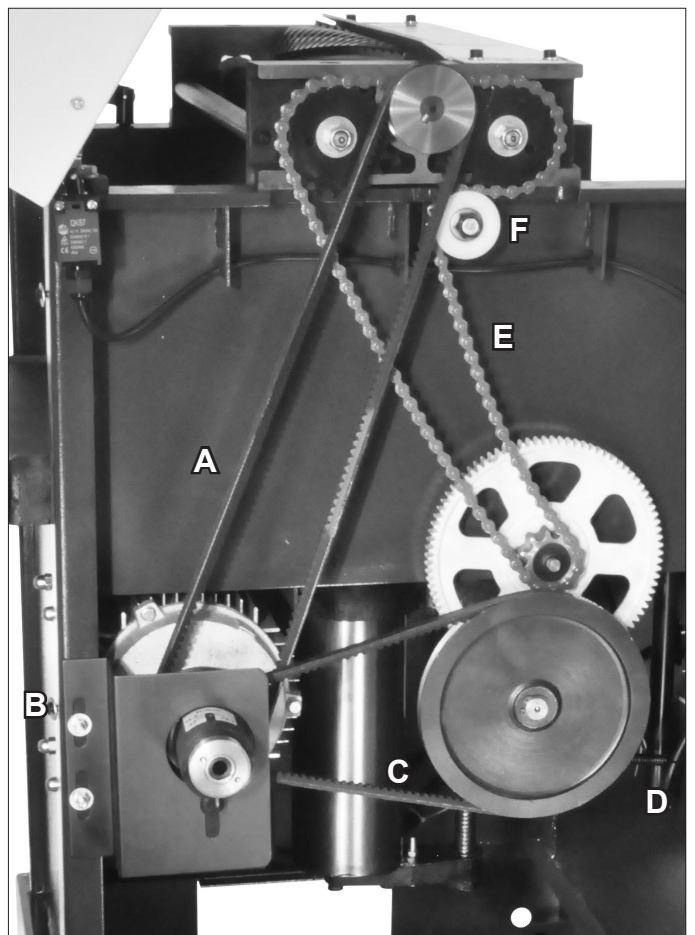

FIG. 25
5. Check the *Cutterhead Drive Belt* (#145, FIG. 25, A) tension with thumb pressure. The drive belt should not give more than 3/8" to 1/2" in the center.